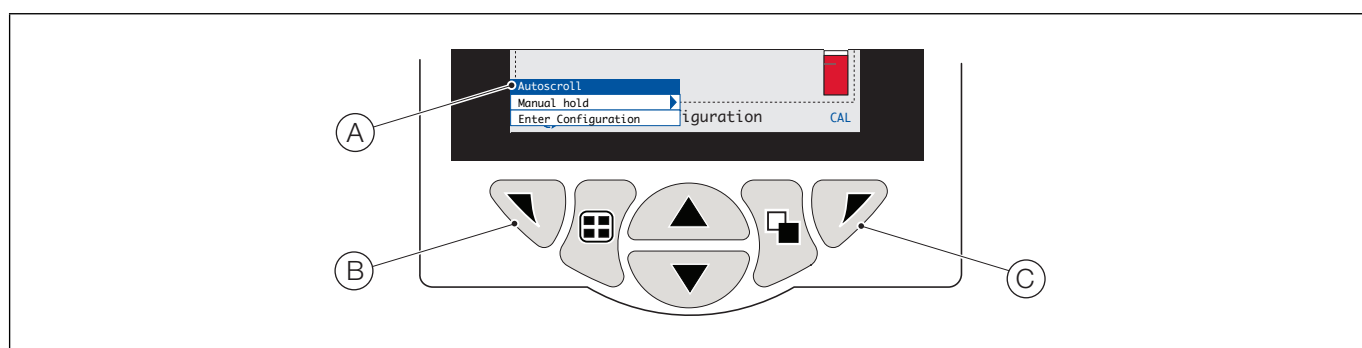

Fig. 6.2 Operator menus
The transmitter has 4 modes of operation – all modes are accessed from the *Operator* menu – see Fig. 6.2.
Referring to Fig. 6.2, *Operator* menus (A) are accessed from any *Operating*, *View* or *Log* page by pressing the  key (B).
When multiple wet-sections are connected, and if *Autoscroll* is selected from the *Operator Menu* (see Fig. 6.2, page 30), the display scrolls through each available *Operator Page* consecutively.